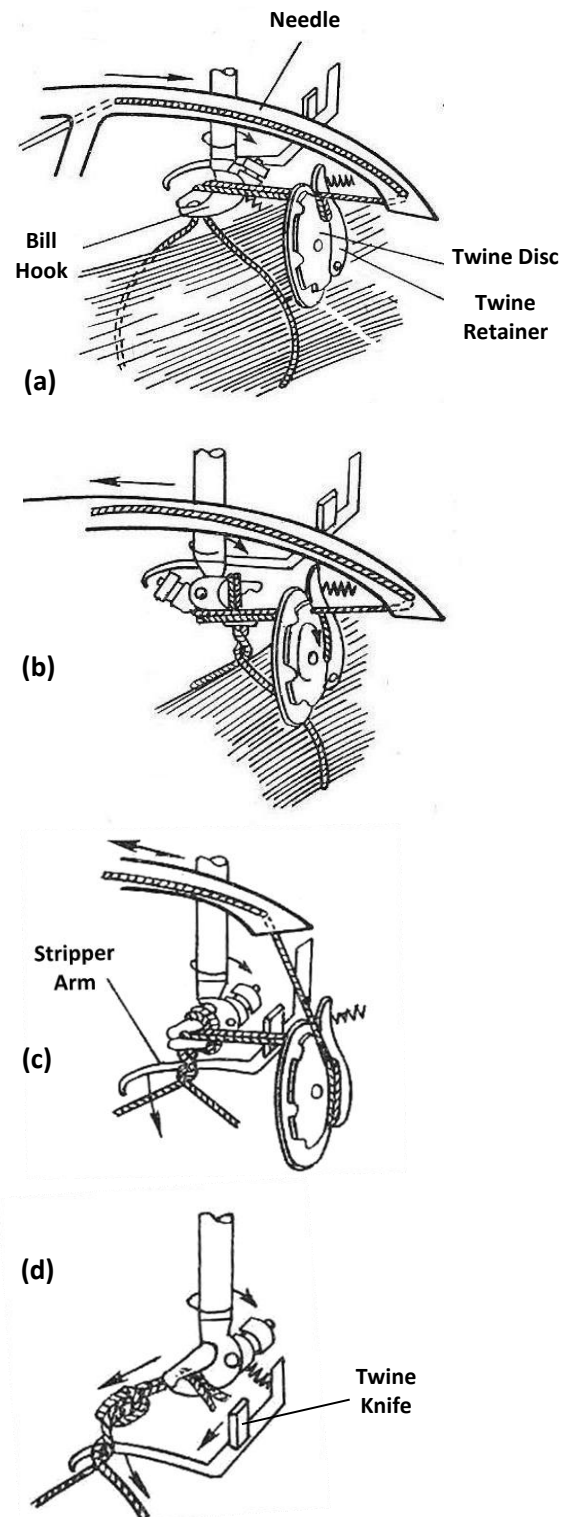

Fig.3.1 Deering-type knotter operation
- 2) When the Knotter(s) are tripped, the **Needle** places the free-end of the twine around the sheaf/truss, across the **Bill Hook** and into a 'notch' on the outside edge of the **Twine Disc** (Fig.3.1(a))
- 3) The **Twine Disc** rotates slightly into the **Twine Retainer**. This grips both strands of twine in one 'notch' & also exposes another 'notch' in the Disc, to receive a new strand of twine from the **Needle** when it retracts (Fig.3.1(b))
At the same time the **Bill Hook** begins to rotate through one turn & winds the two strands of twine around its body, forming a loop (Fig.3.1(b))
As it rotates the **Bill Hook Jaw** also opens & grasps the upper parts of both twine strands (Figs 3.1(b) & (c))
- 4) A power-operated **Twine Knife** cuts both strands of twine between the **Bill Hook** & the **Twine Disc & Retainer** (Fig.3.1(d))
Simultaneously, the **Stripper Arm** forms the **Knot** by pushing the twine loop off the end of the **Bill Hook**, over the two cut ends of twine held by the **Bill Hook Jaw** (Figs 3.1(c) & (d))
The immediate identifying feature of a Deering-type knotter is its power-operated, moving knife which cuts both strands of twine towards the end of the tying cycle (*see Fig.3.1(d)*). However, there's more:
- The Twine Disc is orientated with its underside at 90 degrees to the Needle's direction of travel. So, during twine placement, the Needle passes over the outside edge of the Twine Disc at 90° to it (*see Fig.3.1(a)*)
So how do the individual knotter components manage to perform their particular tasks in the right order & at the correct point(s) in the tying cycle? (see Fig.3.1). This is all controlled by the knotter's Cam Gear, which both drives and coordinates their various actions.